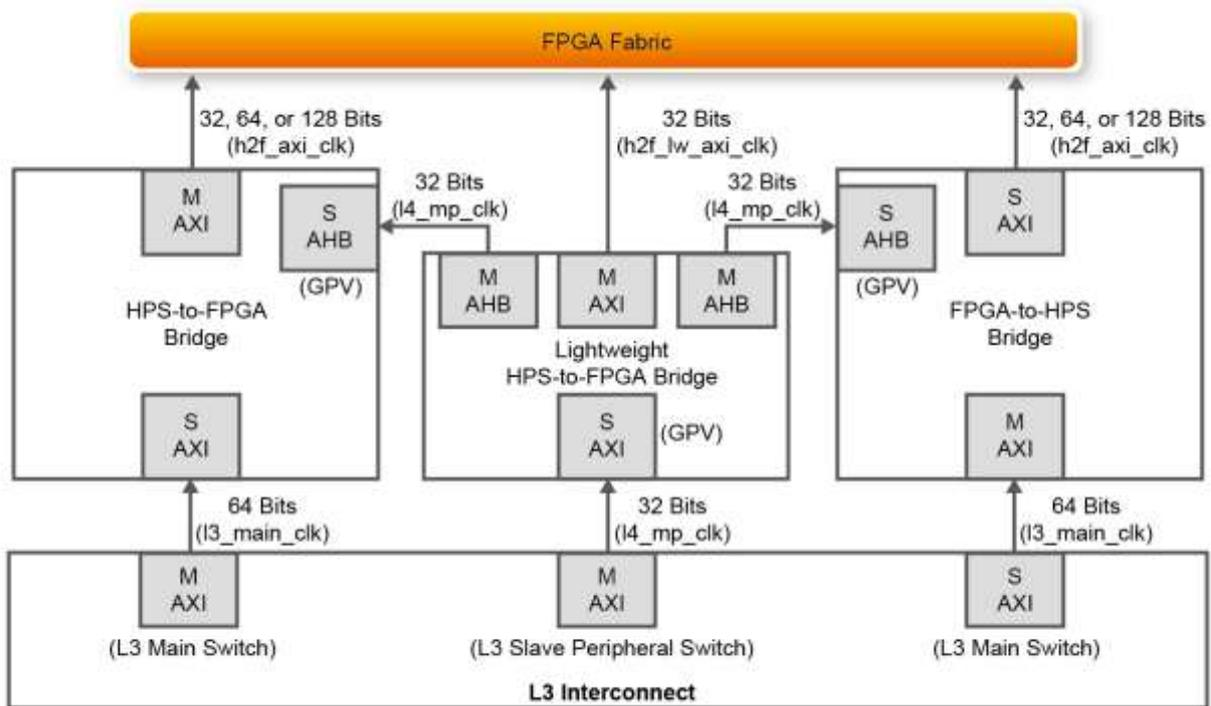

Figure 1-1 AXI Bridge Block Diagram
Figure 1-1 shows a block diagram of the AXI bridges in the context of the FPGA fabric and the L3 interconnect to the HPS. Each master (M) and slave (S) interface is shown with its data width(s). The clock domain for each interconnect is shown in parentheses.